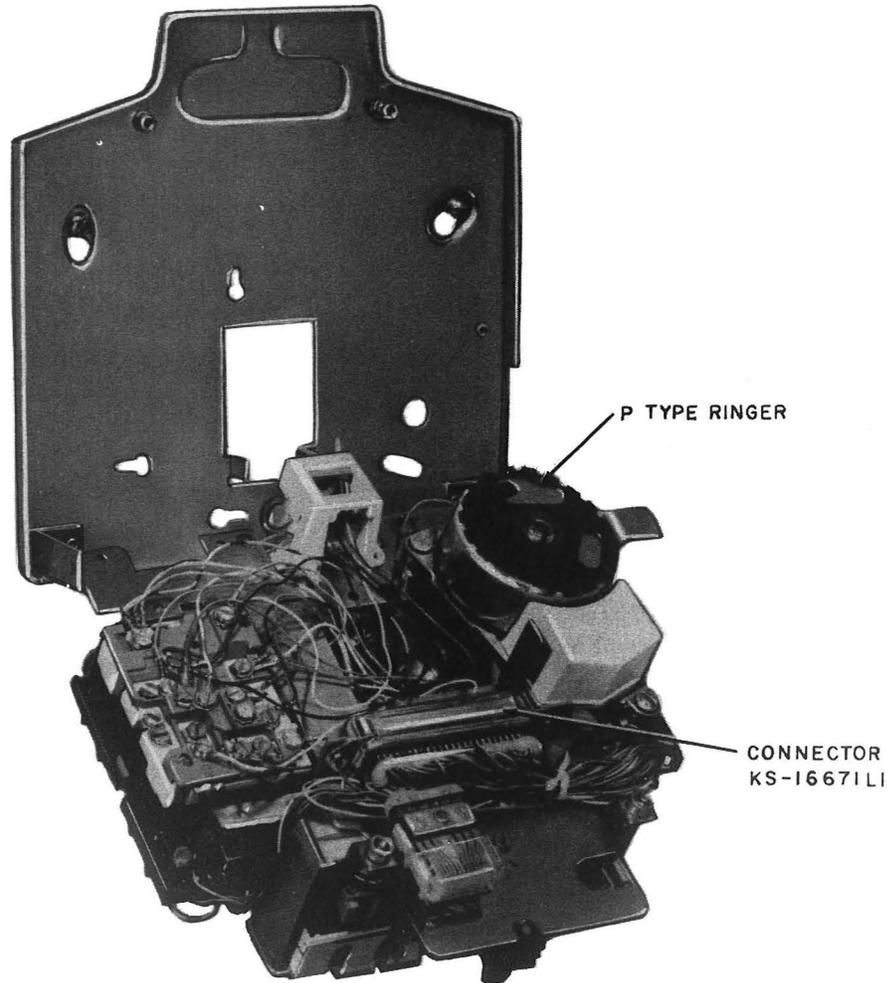
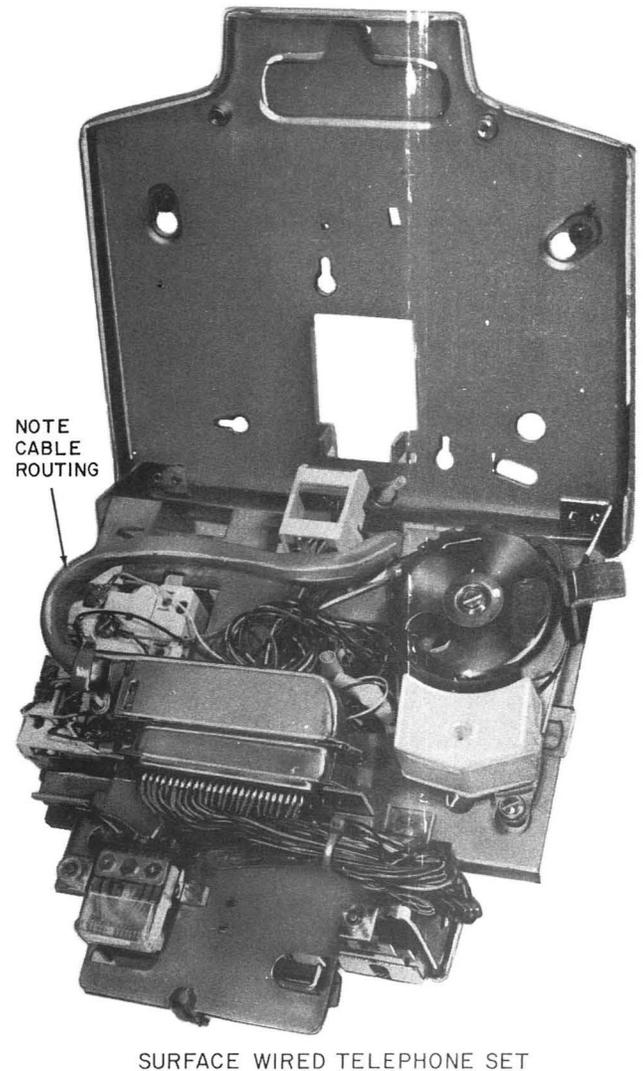

Fig. 6— 851CM or 2851CM Telephone Set Showing KS-16671L1 Mounting Cord Connector
Fig. 11—Cable Routing on Current 851CM and 2851CM Telephone Sets at Exposed Wire Location
3.09 The 851CM and 2851CM telephone sets are equipped with a KS-16671L1 connector (Fig. 6). An A25B connector cable is required to connect set to key equipment (Fig. 11 and 12).
4.03 For sets equipped with the KS-16671L1 connector (Fig. 6), an A25B connector cable is required.